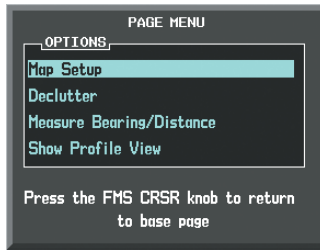

Figure 6-156 Navigation Map Page Menu
- 3) With 'Map Setup' highlighted, press the **ENT** Key (Figure 6-156).